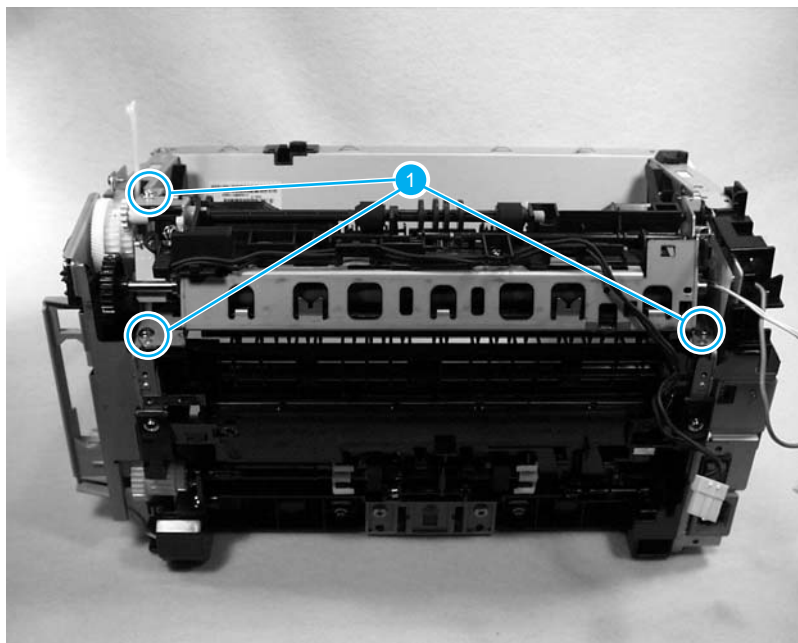

Figure 5-22.
6. Remove 3 screws (callout 1, figure 5-22). (Figure shows delivery sensor PCB removed, which is not necessary).